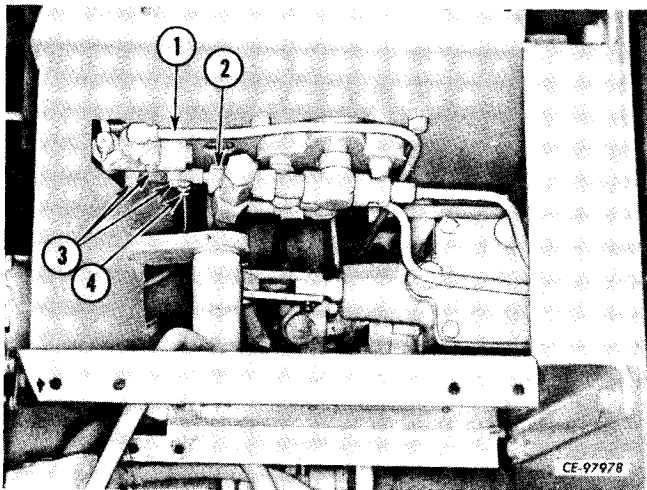

Figure 13-16
Disconnect and plug line (1, Fig. 13-16) between master cylinder and valve and line (4) between valve and brake caliper. Remove electrical lead from sender (2). Remove nuts (3) and brake lock valve.
Position valve on seat bracket and install and tighten cap screws, lock washers and nuts (3, Fig. 13-16). Connect lines (1, 4). Connect electrical wire to sender (2).